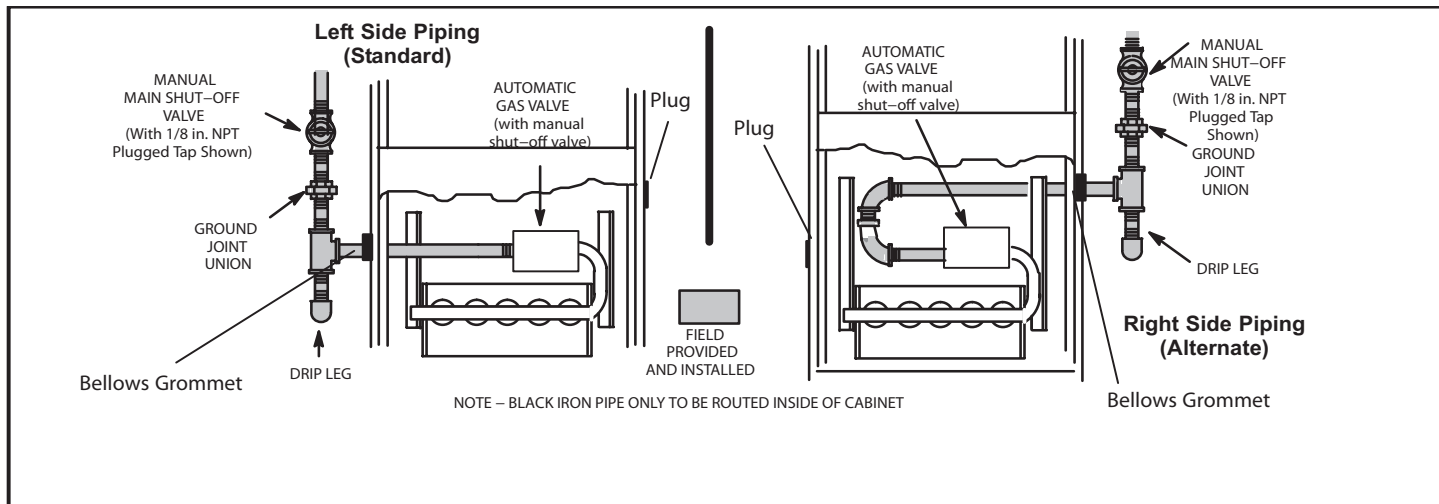

FIGURE 43
1. Gas piping may be routed into the unit through either the left or right hand side. Supply piping enters into the gas valve from the side of the valve as shown in Figure 43. Move bellows grommet to side of the cabinet which the gas line enters. Ensure opposite gas line entrance is plugged with supplied plug.
3. Gas piping must not run in or through air ducts, clothes chutes, chimneys or gas vents, dumb waiters or elevator shafts. Center gas line through piping hole. Gas line should not touch side of unit. See Figures 43.